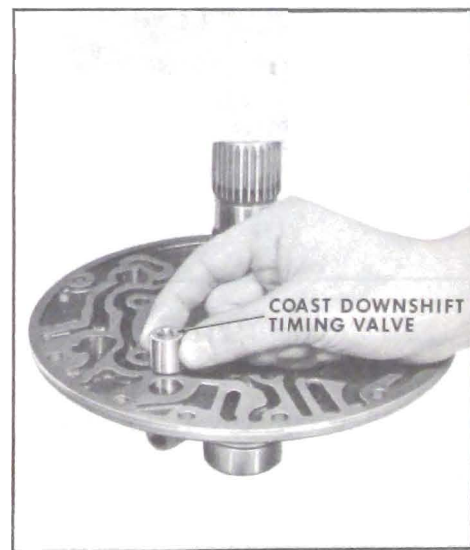

Figure 5-208
6. Install coast downshift timing valve 'button end' up in cover. See Figure 5-208.